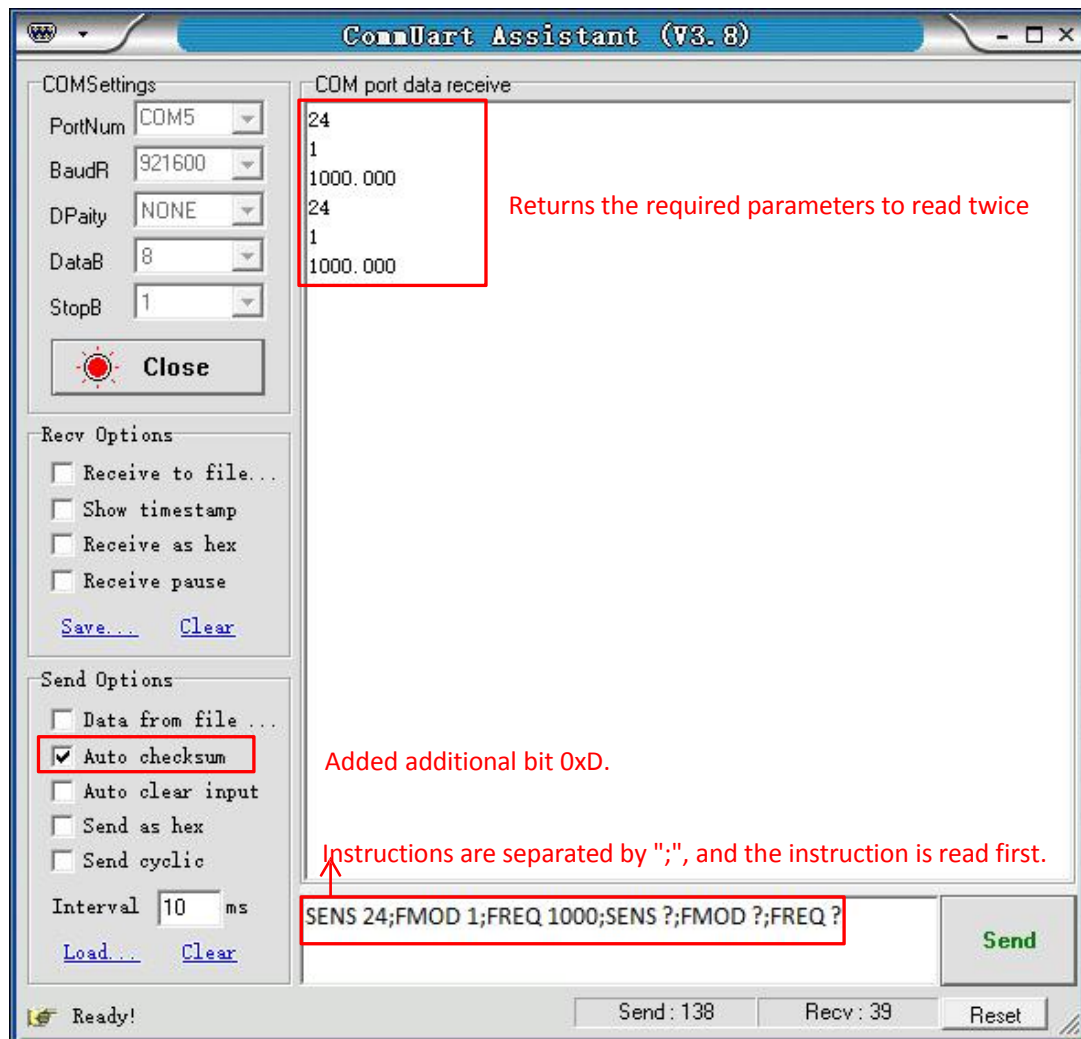

Fig.78 The execution of multiple commands
(3) Multiple commands are separated by “,”, such as “SENS 24;FMOD 1;FREQ 1000;SENS ?;FMOD ?; FREQ ?”, as is shown in Fig.78.